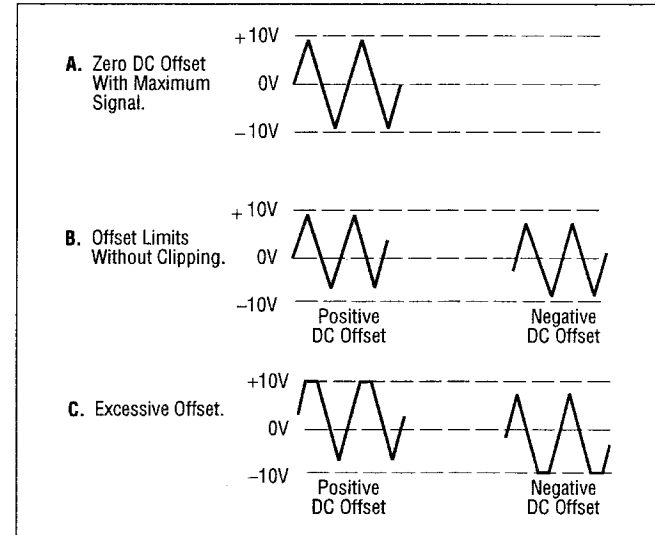

Figure 3. Use of DC OFFSET Control
6. Adjust the amplitude of the output as desired using the **OUTPUT LEVEL** control (4). Rotation of this control varies the amplitude from maximum to 20 db below maximum. An additional attenuation of -20db is available by pushing in the **-20dB** switch (11). The attenuation factors can be combined for a total of -40db. The maximum signal level is 10 V p-p (into 50 Ω).
7. A superimposed DC component can be added to the output signal by engaging the **DC OFFSET** switch (12) to enable operation of the **DC OFFSET** control (5). Rotation of this control adds a positive or negative DC component to the output signal. The DC component introduced is independent of the **OUTPUT LEVEL** control and can be varied by ± 10 volts open circuited or ± 5 volts into 50Ω . The DC Offset does not affect the **TTL/CMOS** output jack. The effect of DC OFFSET is shown in Fig. 3.
6. Remember that the output signal swing of the generator is limited to ± 10 volts open circuited or ± 5 volts into 50Ω , and applies to the combined peak-to-peak signal and DC offset. Clipping occurs slightly above these levels. Fig. 3 illustrates the various operating conditions encountered when using the DC offset. If the desired output signal is large or if a large DC offset is required, an oscilloscope should be used to make sure that the desired signal is obtained without undesirable clipping.